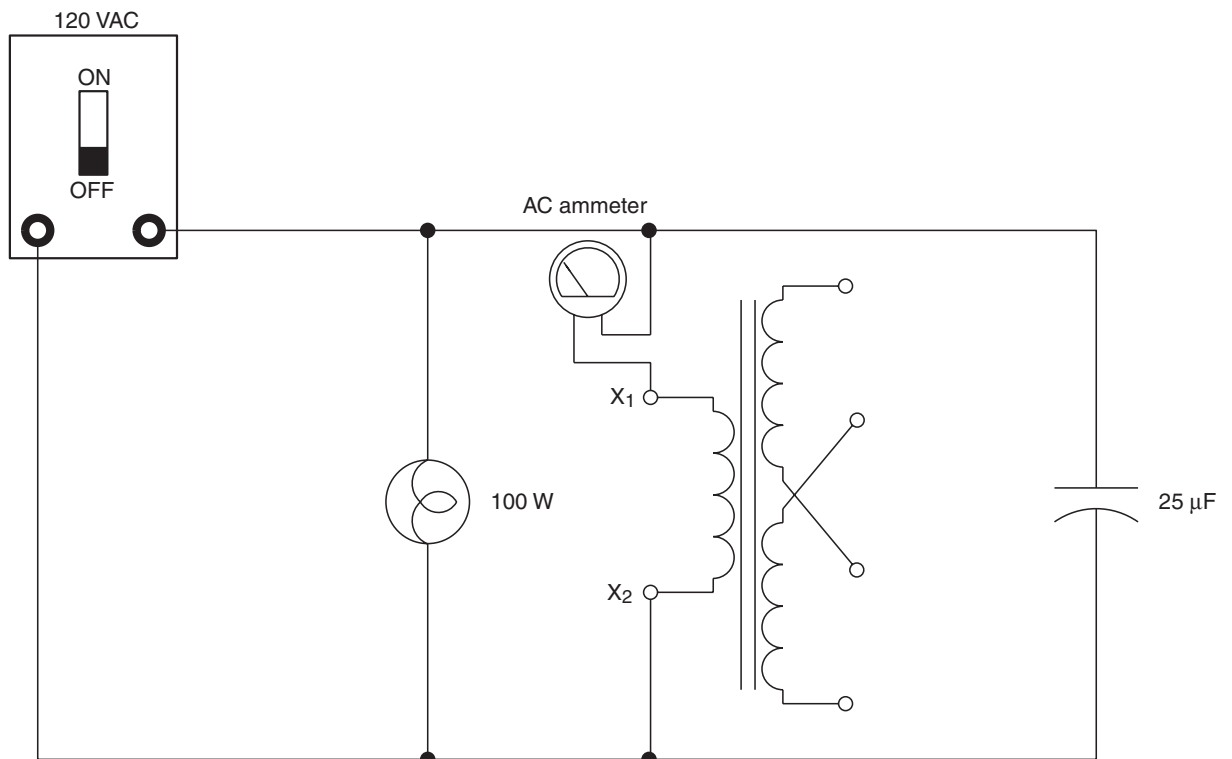

Figure 17-6 Measuring current through the inductive branch.
8. **Turn off the power supply** and reconnect the circuit to measure the current flow through the inductive part of the circuit, as shown in Figure 17-6.